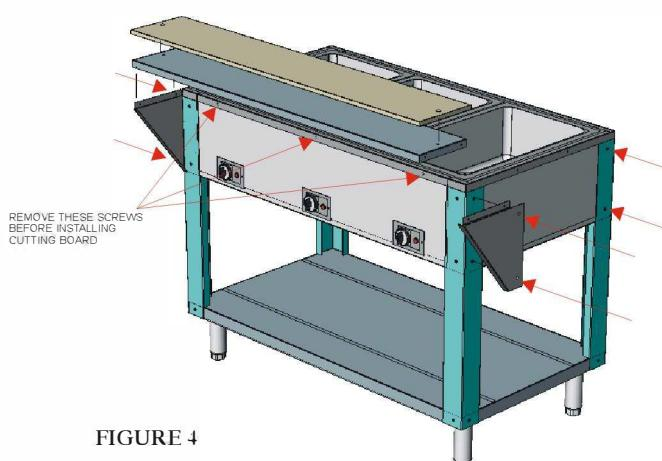

FIGURE 4
- D. **Poly Cutting Board Assembly.** Remove operator side screws securing the top panel to the box. These will be used to strengthen the cutting board. Install the cutting board brackets on the ends of the main box as shown in Figure 4. Use $\frac{1}{4}$ -20 x 3/4" screws.